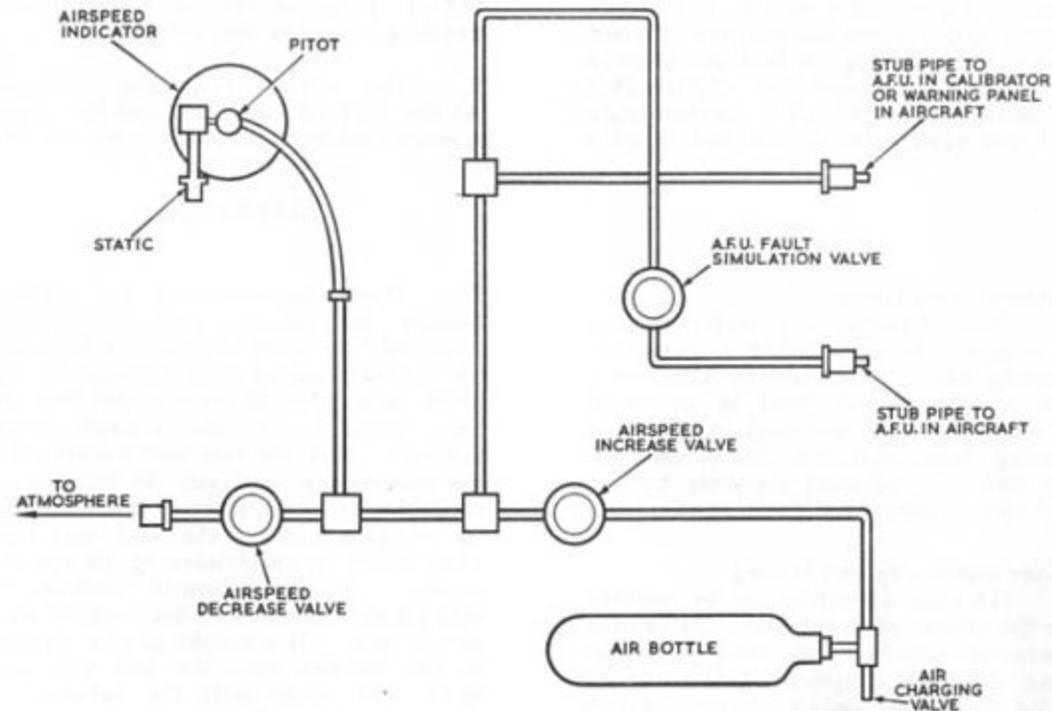

Fig.4 Pneumatic system
13. The pneumatic system (fig.4) provides the air supplies to the feel units and failure warning system for simulating varying airspeeds. A small air bottle clamped to the console base plate, serves as the system reservoir, and a cycle type pump is provided for charging the bottle via a valve which protrudes through the console rear panel.